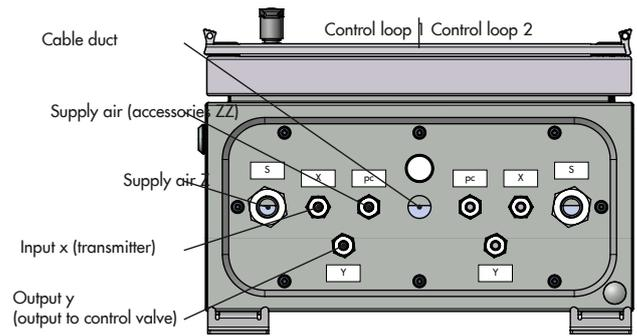

Fig. 7: Labeled connections of Type 7311
2. Connect all required supply lines (see connections in Fig. 7).
A supply line for the external air supply must be provided on site and connected as described in Fig. 7.
The power supply line is guided through the cable duct (see Fig. 7) and connected to the internal terminal block (see Fig. 8).